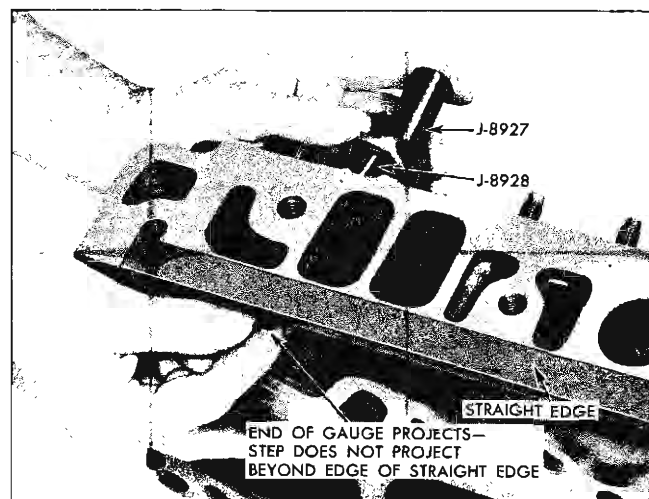

Fig. 6-40 Checking Length of Valve Stem with J-8928
a. Position rocker arm on stud and hold in place using rocker arm stud installer J-8927. Slip valve into place and hold it against valve seat. While holding rocker arm and valve in position securely, insert valve train gauge J-8928 through push rod hole and seat snugly in push rod seat of rocker arm (Fig. 6-40). With all parts seated, step end of gauge should be at least flush with gasket face of head, but should not project past the step on the gauge.